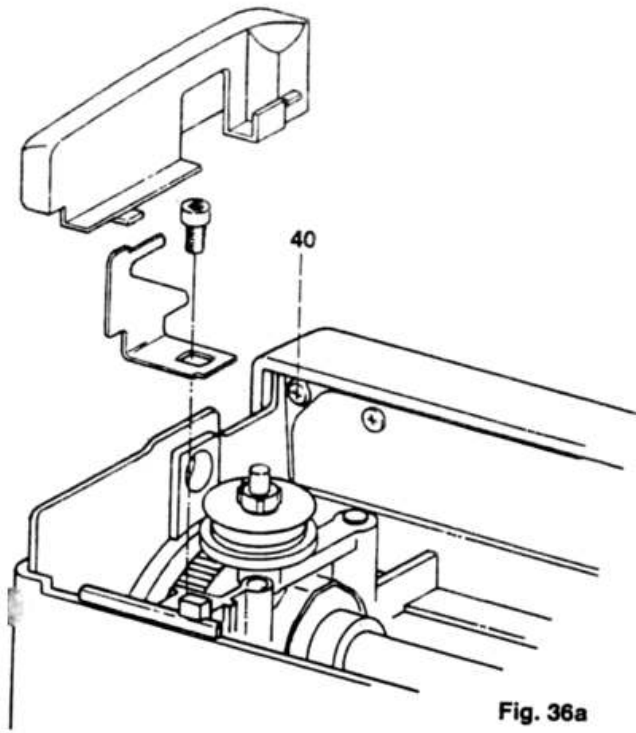

Fig. 36a
- Put the cap on the machine cover (fig. 36a).